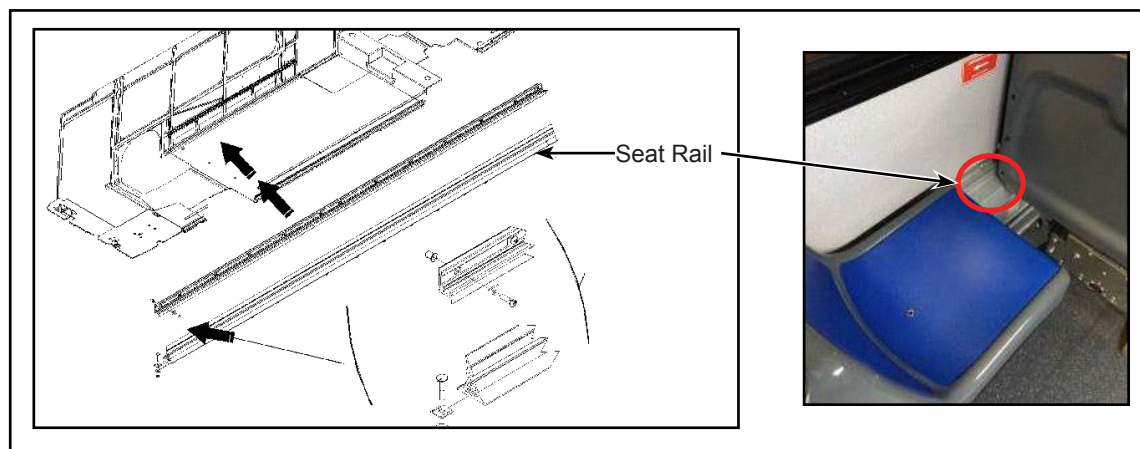

Figure 14 - Location of Seat Rail
- 2.2. Locate hardware used to fix the seat rail on the wall (see Figure 14).